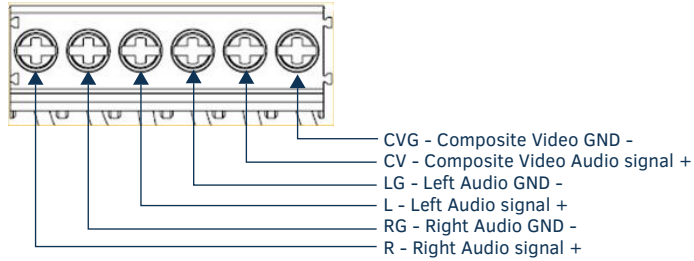

FIG. 5 HPX-AV100-CS+A COMPOSITE AV MODULE - WIRING SCHEMATIC
3. Secure each connection using the terminal screw, according to the schematic provided in FIG. 5: